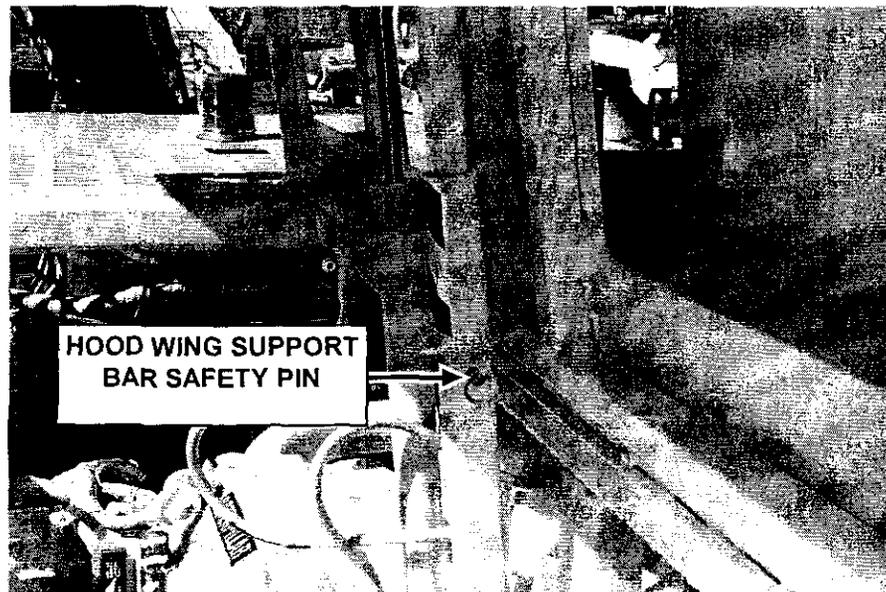

FIGURE 12
6. **Left and Right Hood Raise**: To prevent retained hydraulic pressure, completely raise the hood wing, apply the hood wing safety pin. Then lower the hood wing slightly until it is resting on the safety bar. Then shut off the machine (figure 12).